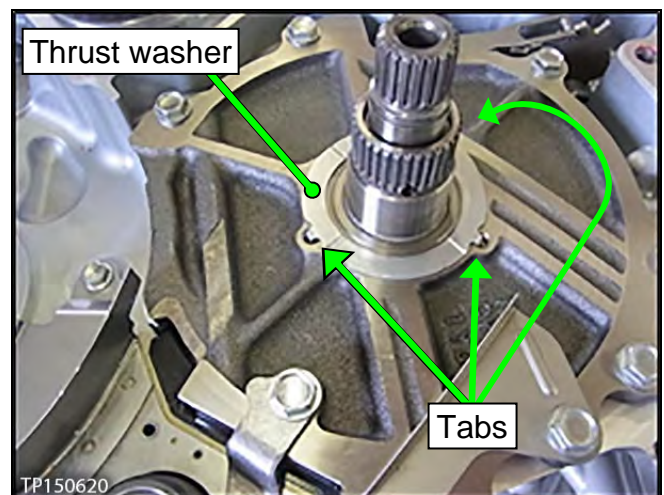

Figure 70
12. Install the existing thrust washer onto the oil pump cover (see Figure 70).